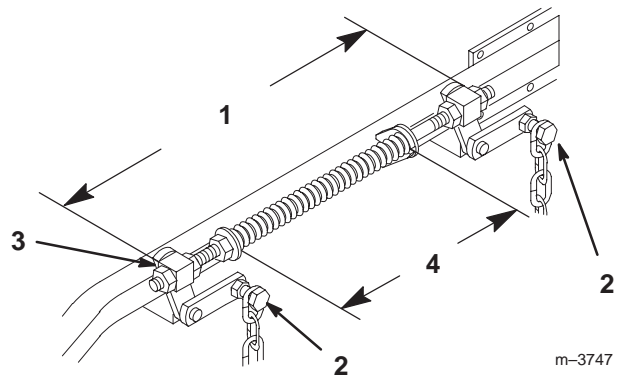

Figure 65
6. Loosen four (4) top chain bolts in slots. Check the length of the rod/swivel assemblies. Distance from outside of rear swivel to outside of front swivel should be 19-17/32" (496 mm) (Fig. 65). Make sure that all four swivels move freely in holes.
8. Lift up on four (4) top chain attachment bolts, in the slots, to take slack out of chains and tighten flange lock nuts. (Deck is still supported by two rear and one front blocks under mower.)
2. Springs are compressed so the distance between the two large washers should be 10-1/4" (260 mm) (Fig. 65).
3. Adjust by turning nut in front of each spring (Fig. 65). Clockwise will shorten spring; counter-clockwise will lengthen spring.